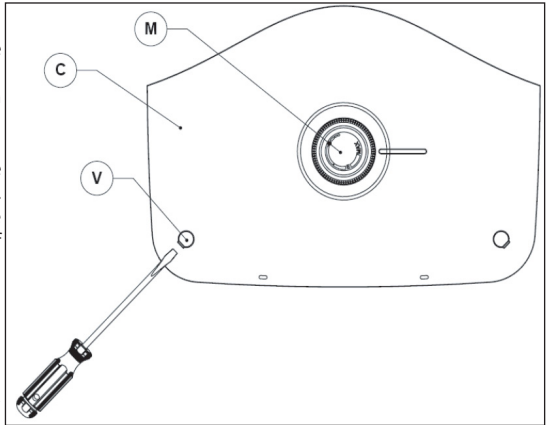

Figure 6 - Water Heater Cover and Thermostat Detail
- Pry off the round knob cover plate (Figure 6, M) with a small flat head screwdriver.
- Pry off the screw covers (Figure 6, V) with a small flat head screwdriver.
- The cover (Figure 6, C) can now be removed by pulling out its left hand edge. When reassembling, work in the opposite way, being careful to insert the tongue of the cover into the slot.